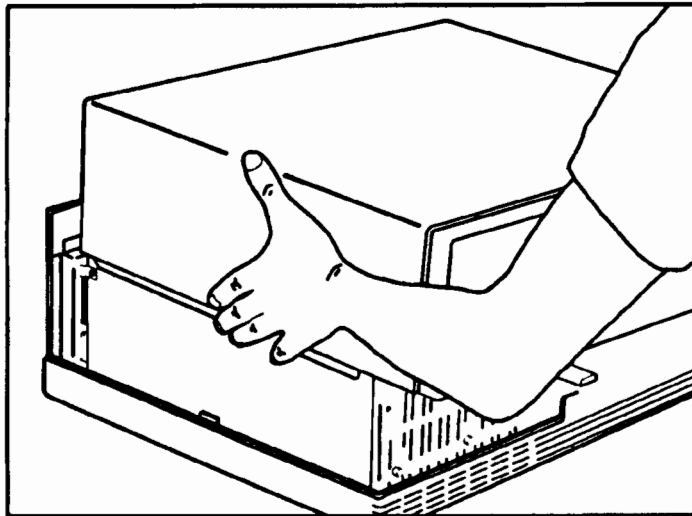

Figure 2-2. Removing the Cover
3. Remove the top cover of your computer. (You may need to refer to your computer user's manual.) See figure 2-2.